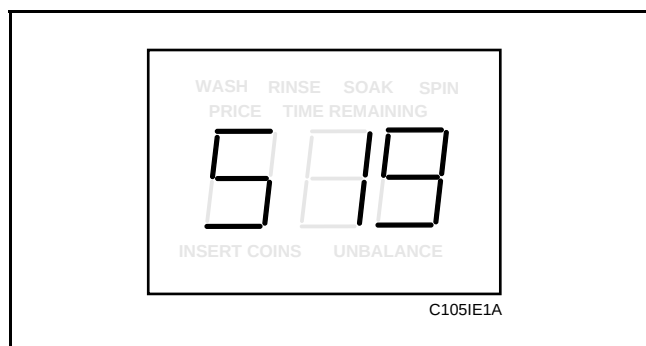

Figure 16
2. While pressing and holding the PERM PRESS keypad with one hand, press the COLD keypad with the other hand. Programmable option number one, “Slg”, will appear in the VFD. See **Figure 16**.